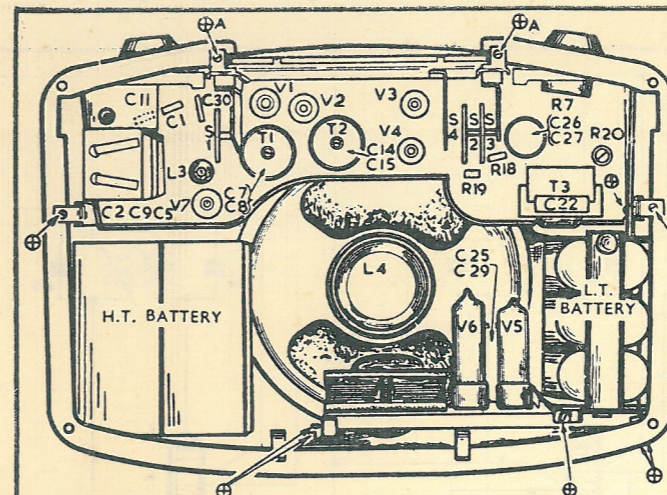

FIG. 1
- 6 Lift and hold carrying handle, insert screwdriver between outer and inner lugs "A" at either side of dial scale opening (see Fig. 1) and slide outwards to their fullest extent of approx. 1/4 inch.